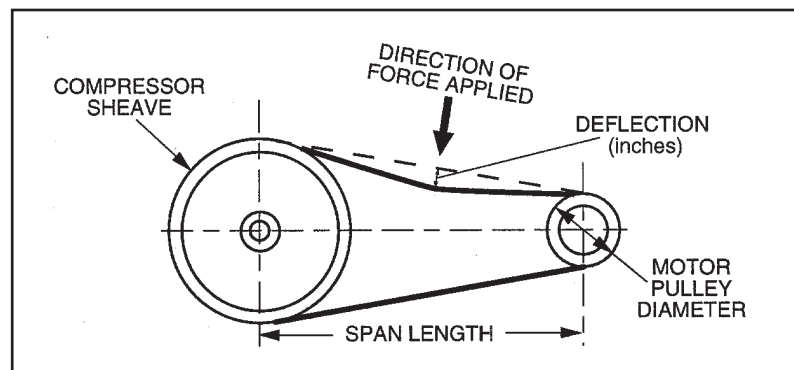
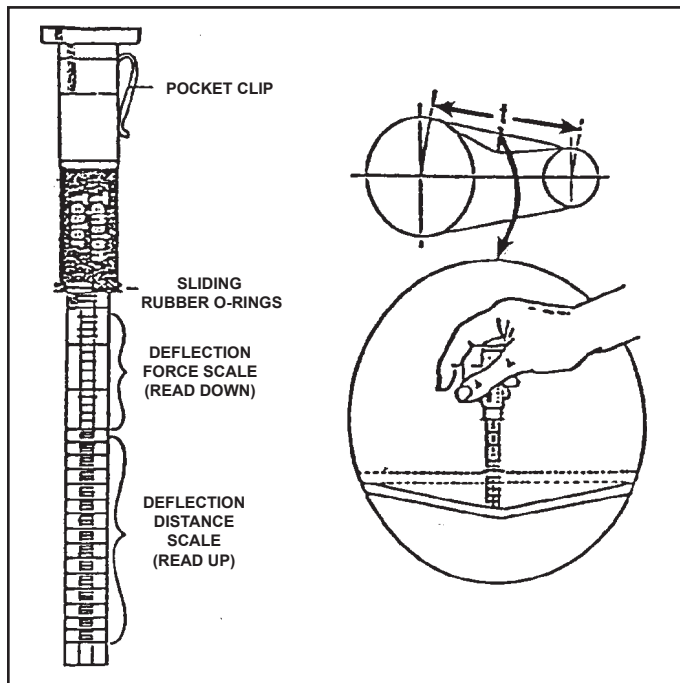

Fig. 5-1
Fig. 5-2 Belt Tension Gauge
Step 1) Measure the span length of the drive. (Refer to **Fig. 5-1, Setting Belt Tension**.)
Step 4) At the center of the span, perpendicular to the belt, apply pressure to the outer surface of the belt with a belt tension gauge (refer to **Fig. 5-2, Belt Tension Gauge**). Force the belt to the predetermined deflection (refer to **Step 2** above). Record the reading on the belt tension gauge and compare to the chart following **Fig 5-1**. The deflection force reading should be within the minimum and maximum values shown. Adjust belt(s) accordingly. New belts should be initially tensioned to the maximum value plus 33% (multiply by 1.33).